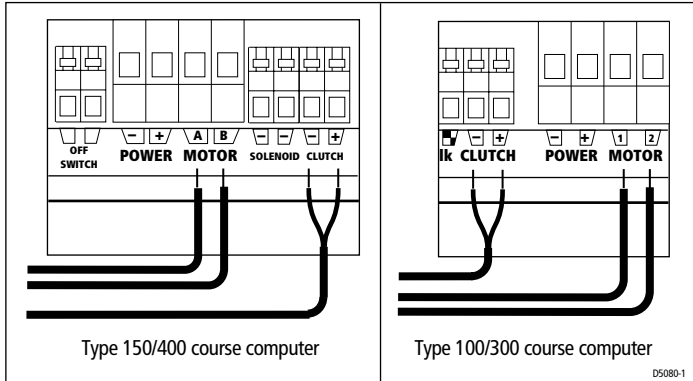

Figure 9: Cable connections at course computer
- the cables from the pump to the **MOTOR** terminals on the course computer (see *Figure 9*): at this stage you can connect either motor cable to either terminal. You will check these connections after installing the rest of the autopilot system.
- the cables from the hydraulic ram to the **CLUTCH** terminals on the course computer (see *Figure 9*): brown (+) and blue (-)